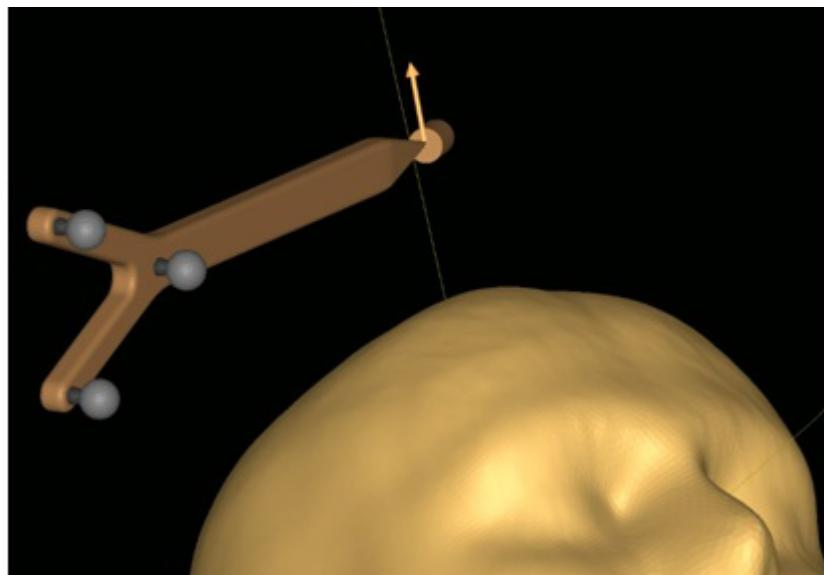
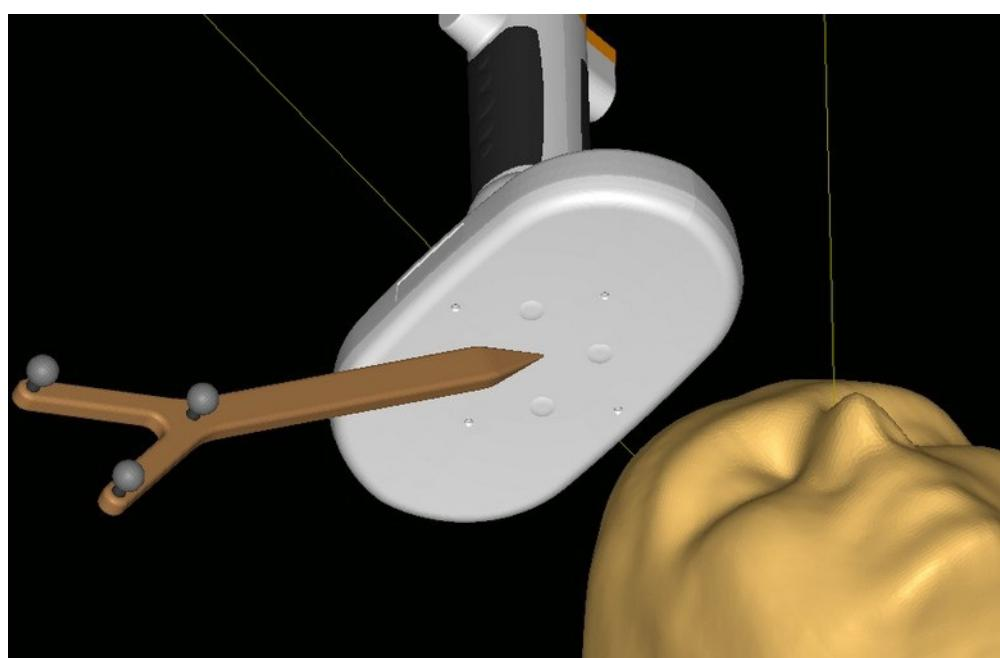

Fig. 82. Coil tracker accuracy check (Cylinder visualization)
Fig. 83. Coil tracker accuracy check (Normal coil visualization)
4. Rotate the view so that the bottom of the coil is seen (as in Figure 82 and Figure 83). (See Chapter “Rotating the 3D head” on page 91.)
See Figure 82 and Figure 83 as examples of coil visualization settings **Normal coil** and **Cylinder**.